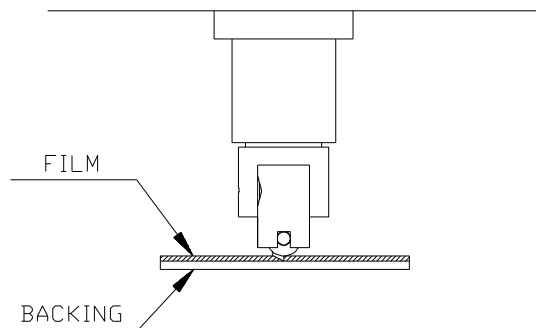

FIGURE 1-7 :
4. Holding the nose piece in place with one hand, adjust the knife depth with the other hand by turning the knife holder clockwise until the knife tip is just visible from under the nose piece as shown in Figure 1-7.